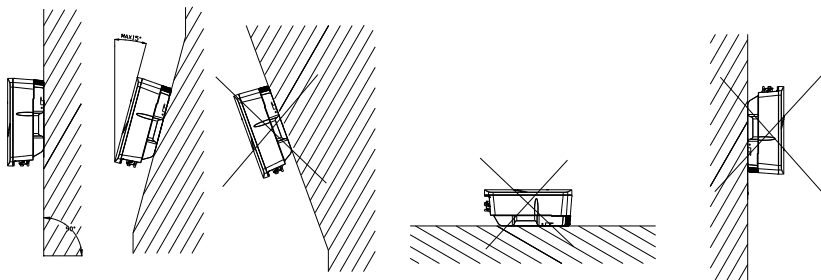

Figure 4.1 Mounting method
① The equipment employs natural convection cooling, and it can be installed indoor or outdoor.
② Please install the equipment under the guidance of Figure 4.1. Vertical installation on floor level is recommended. Mount vertically or tilted backwards by max. 15°. Never install the inverter tilted forwards, sideways, horizontally or upside down.
③ Considering convenience for maintenance, please install the equipment at a position in parallel with line of sight.
④ When mounting the inverter, please consider the solidity of wall for inverter, including accessories. Please ensure the Rear Panel mount tightly.